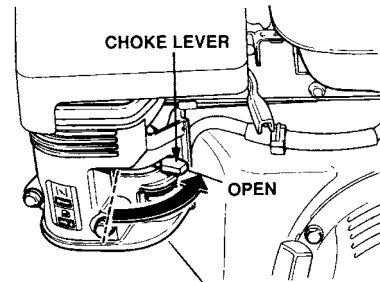

**Figure 22. Engine Choke Lever (Closed)**
2. Place the choke lever (Figure 22) in the **CLOSED** position if starting a cold engine.